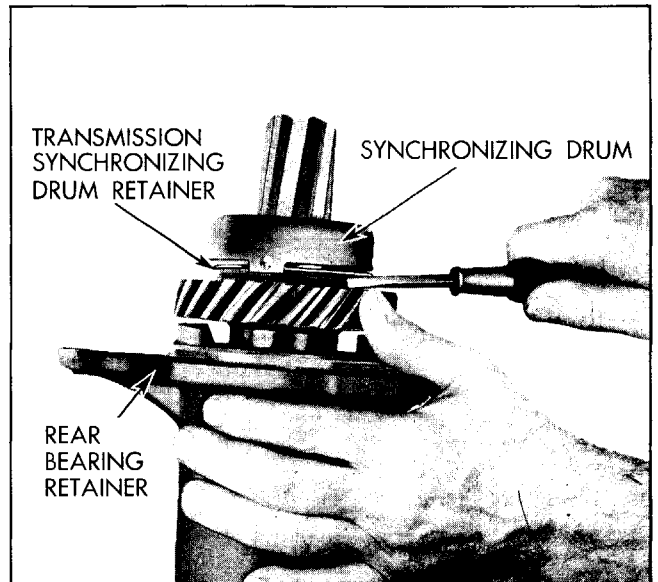

Fig. 7-26 Removing Synchronizing Drum
a. Expand wire retainer and slide synchronizing drum off gear and end of mainshaft, leaving retainer in drum (Fig. 7-26).